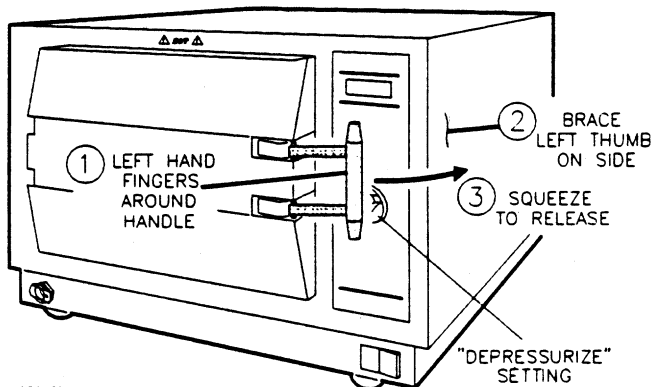

Figure 10: Alternative Door Release
3. Squeeze so the handle pulls directly to the right (see Figure 10). This will release the door latch. The door will now open.